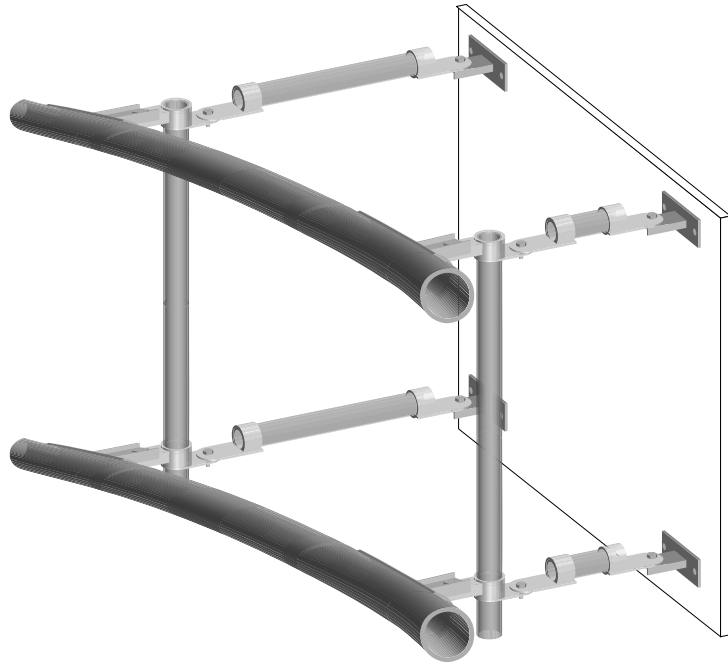

Figure 5. Wall mount for curved screen
9. Curved frames use support tubes of different lengths (shorter in the center, longer at the end of the screen). Refer to Figure 5.